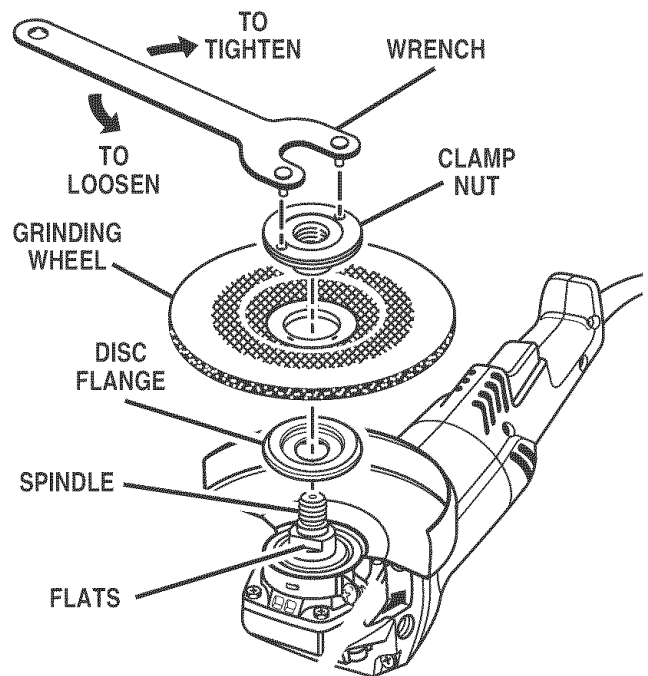

Fig. 3a
See Figures 3a and 3b.
- *To install grinding wheel:* Place grinding wheel over the spindle. Thread the clamp nut on the spindle with the flat side of nut facing up. Fit raised, small diameter portion of the clamp nut into the hole in the wheel and finger tighten. See Figure 3a.